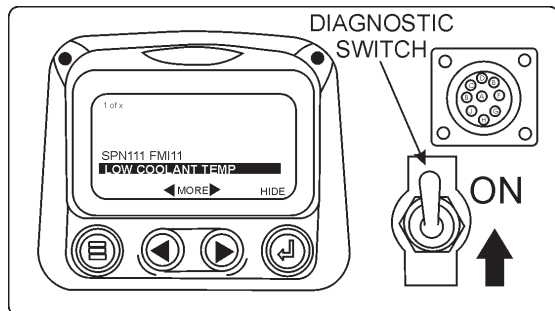

Figure 43. Active Fault Code Message
5. Place the Diagnostic **ON/OFF** switch (Figure 43) in the ON position. Verify that an Active Fault Code message is being displayed (Diagnostic Display Panel). The fault code message will continue to be displayed until the fault has been corrected. Figure 43 illustrates a typical example of an active fault code message (Low Radiator Coolant).